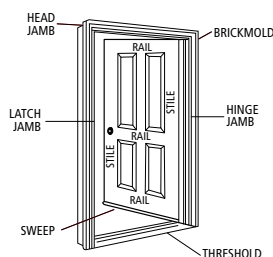

Fig. 1
- For most installations, the rough framed opening (the distance between studs on the right and left and the distance between the header and the sub-floor) should be 2-1/4" wider and 3" taller than the door itself (not including the door jamb Fig. 1).